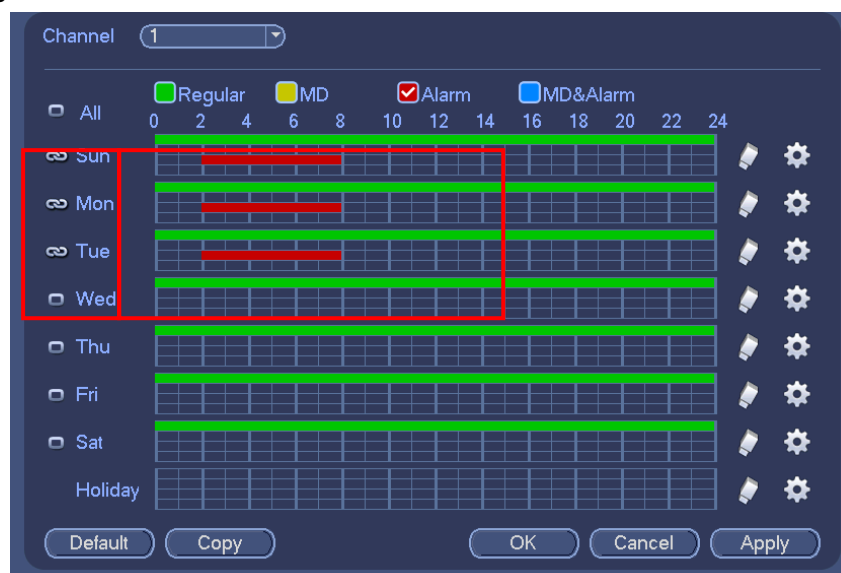

Figure 4-140
- ✧ Please draw manually to set record period. There are six periods in one day. See Figure 4-140.